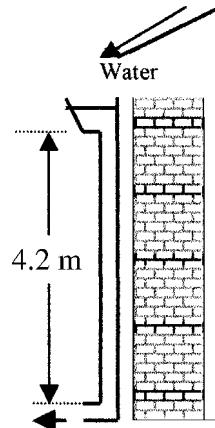

Fig. P6.47
**6.47** The gutter and smooth drainpipe in Fig. P6.47 remove rainwater from the roof of a building. The smooth drainpipe is 7 cm in diameter. (a) When the gutter is full, estimate the rate of draining. (b) The gutter is designed for a sudden rainstorm of up to 5 inches per hour. For this condition, what is the maximum roof area that can be drained successfully?